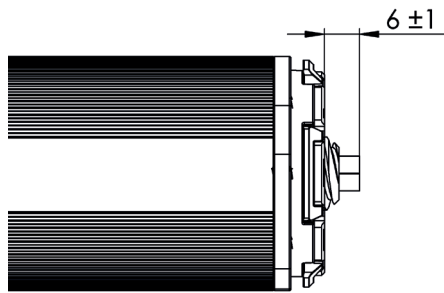

Fig. 7: Adjusting the steel spindle
3. Turn the steel spindle until the target position is reached. The target position is 6mm away from the end of the hollow spindle, see Fig. 7: Adjusting the steel spindle).